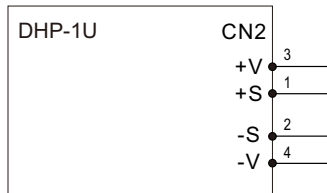

Figure 3-5 Connection of Local Sense
- ⊙ The +S and -S have to be connected to the +V(signal) and -V(signal), respectively, as shown in Figure 3-5, which is Local Sense, in order to get the correct output voltage if Remote Sense is not used. Otherwise, the output voltage will increase to an extremely high level which may trigger OVP.